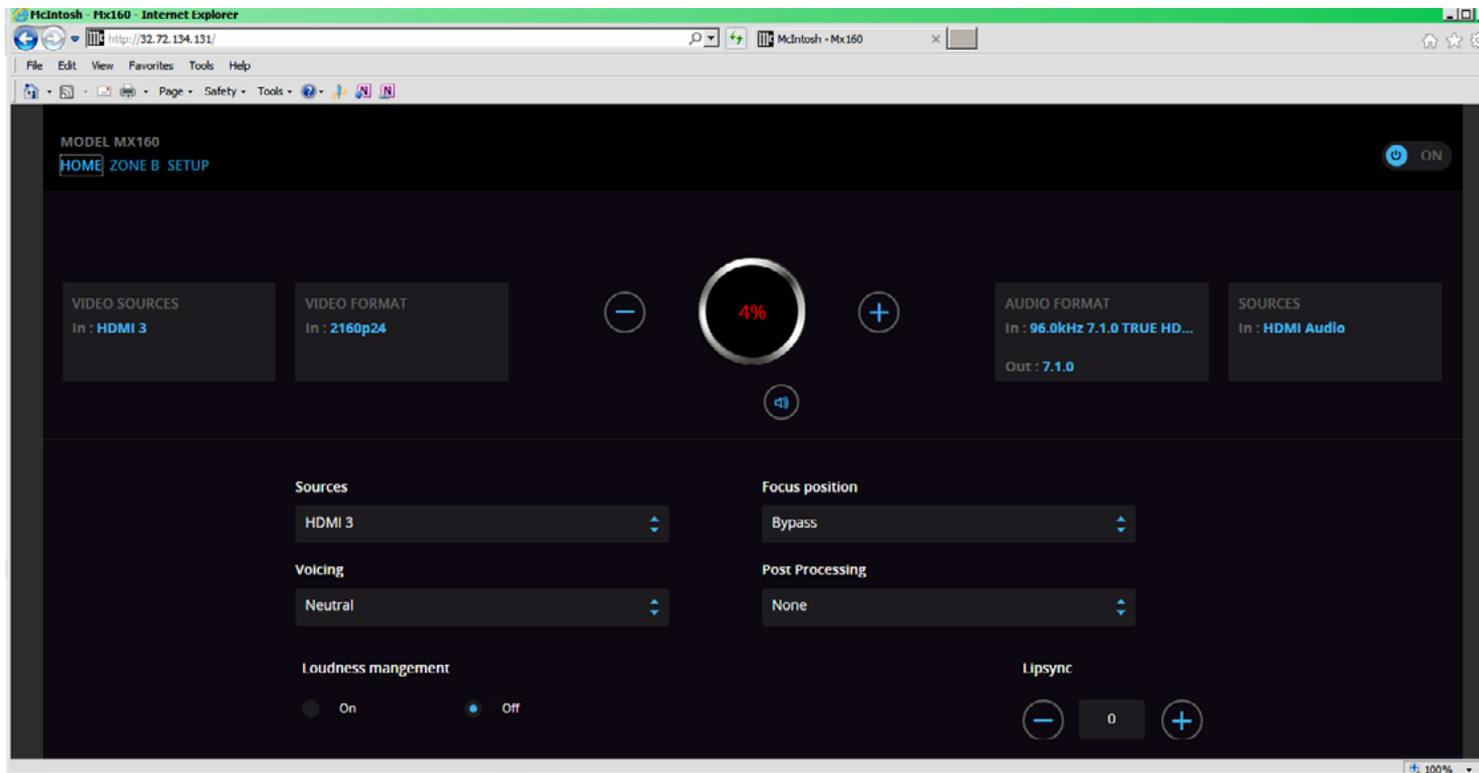

Figure 72
3. Launch the Computer Internet WEB Browser and enter in the URL (Uniform Resource Locator) entry box the current MX160 IP Address "http:// ____ . ____ . ____ " and press return. Refer to figure 72.
In the upper left corner of the Computer WEB Browser's Display there is a three item selection Menu under the title "MODEL MX160". The choices include "HOME (Zone A), ZONE B and SETUP". Refer to figures 72, 73 and 74.